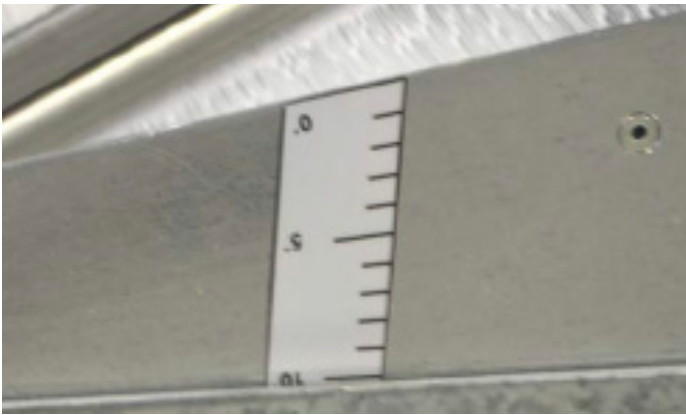

Figure 9 Setting purge angle.
- (2) Adjust purge sector to the specified angle, Figure 9.